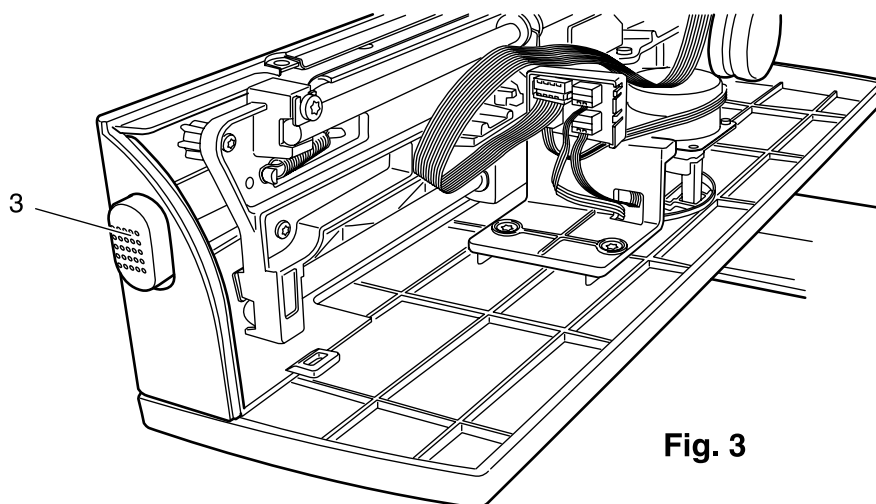

**Fig. 3**
5. Push the release lever 3 to the right and remove the rear cover (Fig. 3).